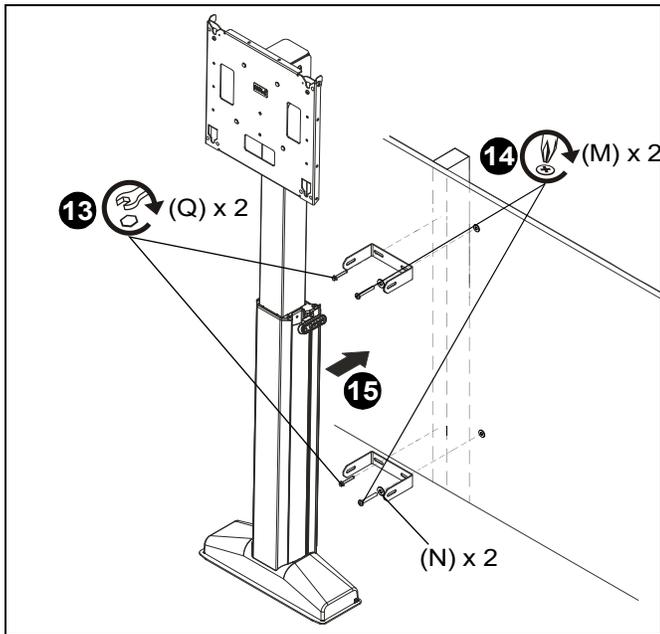

Figure 17
12. Place wall brackets (B1) over anchors and drilled holes and align mounting slots on mount with holes in anchors and wall. (See Figure 17)
13. Install two 5/16 x 2 3/4" hex head tapping bolts (Q) through corresponding mounting slots on mount and into drilled holes on wood stud. DO NOT overtighten! (See Figure 17)
14. Install two 5/16-18 x 3 3/4" Phillips pan machine screws (M) through 3/16 washers (N) and slots on wall bracket (B1) and into toggler anchors (L). (See Figure 17)
15. Position column assembly (P) inside two installed wall brackets (B1). (See Figure 17)